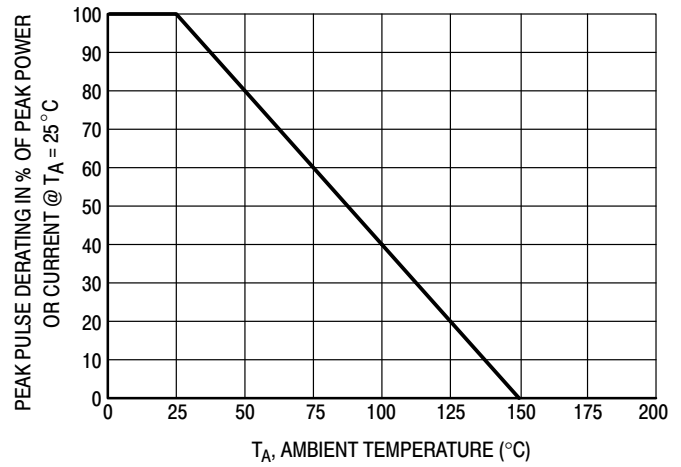
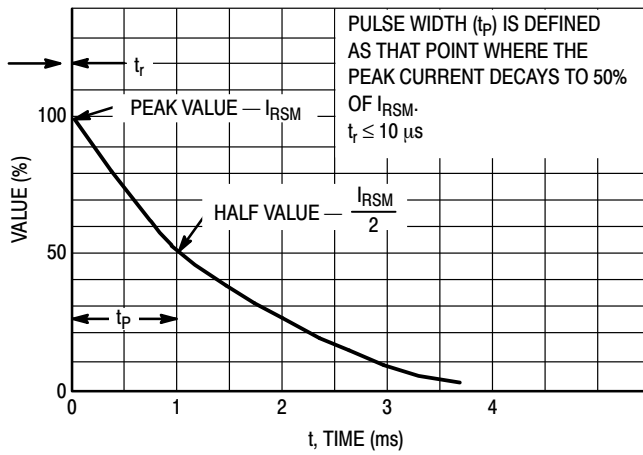
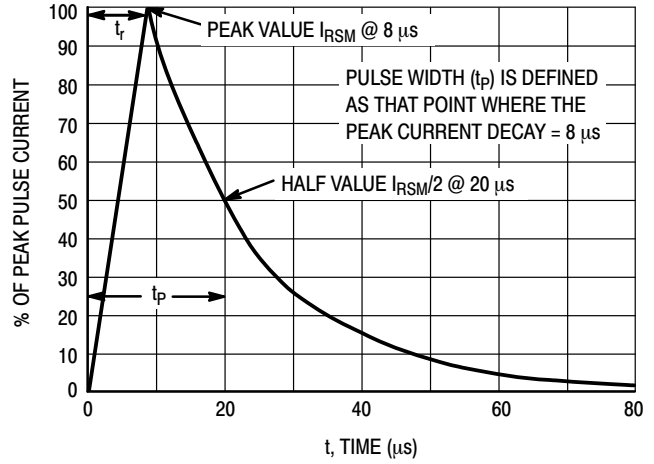

Figure 4. Pulse Derating Curve
Figure 5.  $10 \times 1000 \mu\text{s}$  Pulse Waveform
Figure 6.  $8 \times 20 \mu\text{s}$  Pulse Waveform
- Peak Power – Min. 24 W @ 1.0 ms (Unidirectional), per Figure 5 Waveform
- Peak Power – Min. 150 W @ 20  $\mu$ s (Unidirectional), per Figure 6 Waveform
1. Non-repetitive current pulse per Figure 5 and derate above  $T_A = 25^\circ\text{C}$  per Figure 4.
2. Non-repetitive current pulse per Figure 6 and derate above  $T_A = 25^\circ\text{C}$  per Figure 4.
6. Surge current waveform per Figure 5 and derate per Figure 4.